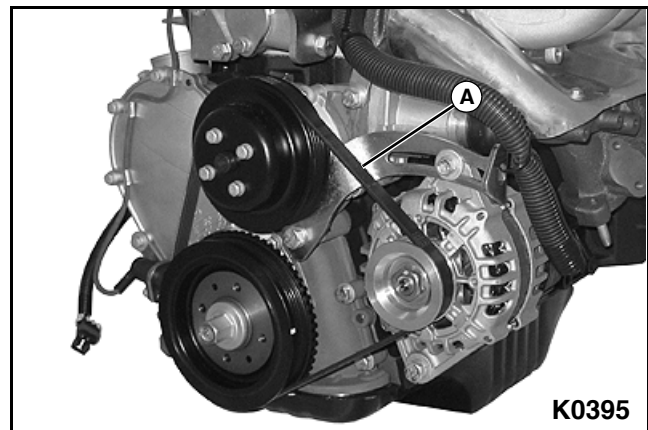

Figure 5-24
2. Locate the drive belt (A). See Figure 5-24.